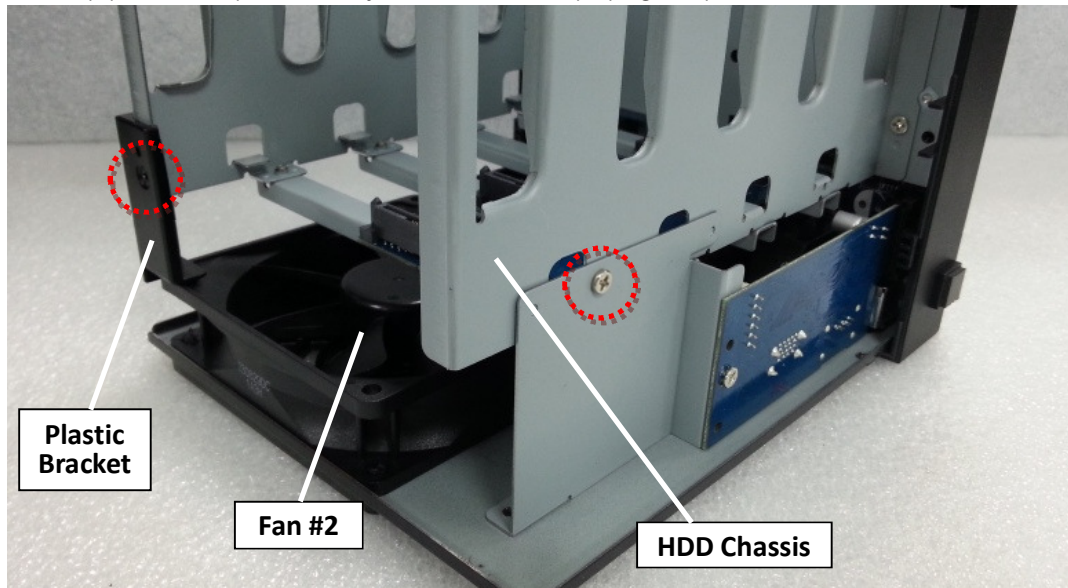

Fig. 35
- 2.2.9 Restore the plastic bracket to connect the fan #2 with the HDD chassis. Then fix the two (2) screws (Marked by the red circles). (Fig. 35)